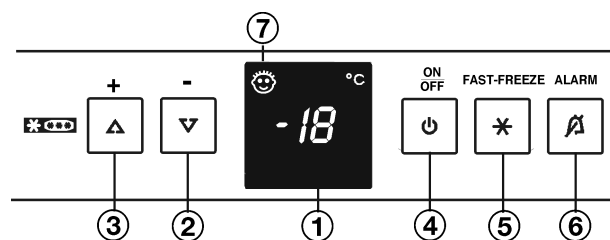

Fig. 2
- ▶ Press On/Off button *Fig. 2 (4)*.
- ▶ To activate the setting mode: Press the Fast Freeze button *Fig. 2 (5)* for about 5 seconds.
- ▶ Using the "+" setting button *Fig. 2 (3)* and "-" setting button *Fig. 2 (2)*, select h
- ▶ To confirm: Briefly press the Fast Freeze button *Fig. 2 (5)*.
- ▶ To make the display brighter: Press the "+" setting button *Fig. 2 (3)*.
- ▶ To make the display darker: Press the "-" setting button *Fig. 2 (2)*.
- ▶ To confirm: Press the Fast Freeze button *Fig. 2 (5)*.
- ▶ To deactivate the setting mode: Press the On/Off button *Fig. 2 (4)*.